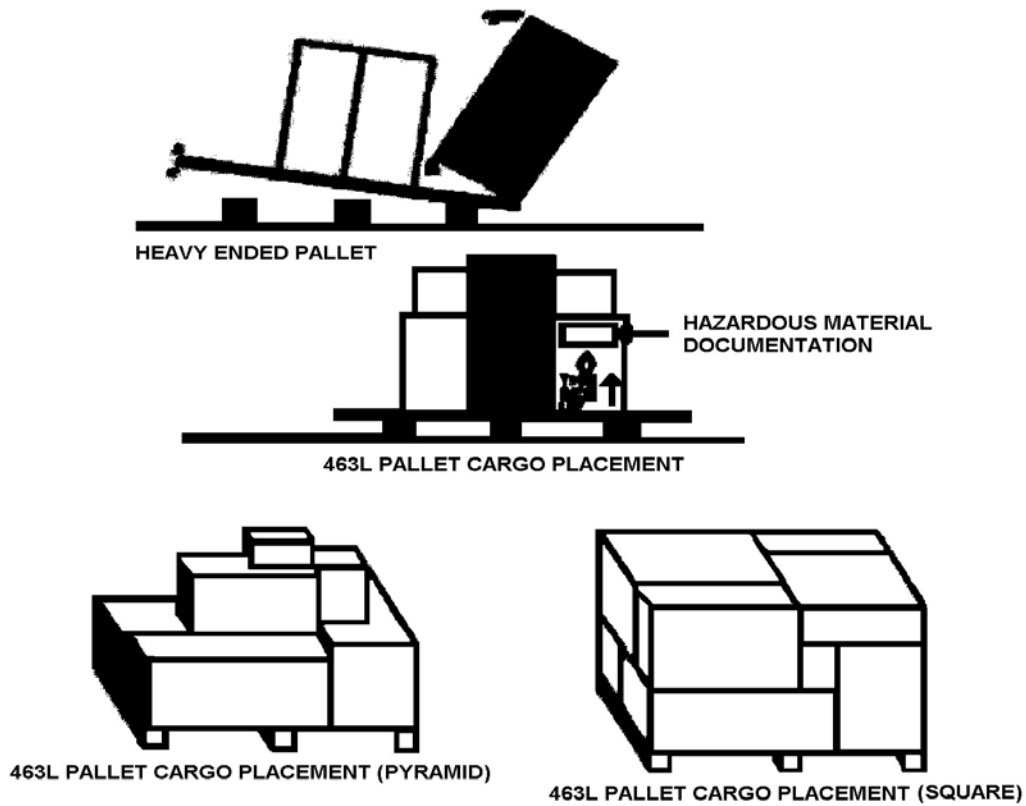

Figure 3-10
- (1) Arrange wooden 4- x 4- x 84-inch boards to form three rows of support.
- (2) Arrange a minimum of nine sandbags to provide two outer and one centerline of support.
- b. Palletize cargo from the heaviest to the lightest items by following these guidelines (see Figure 3-10):